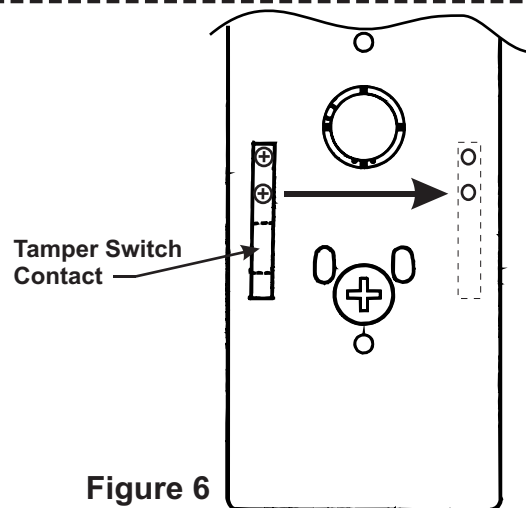

Figure 6
4. Remove and relocate tamper switch contact from mounting base to opposite location as shown below (See Figure 6).
5. Reattach with (2) screws.